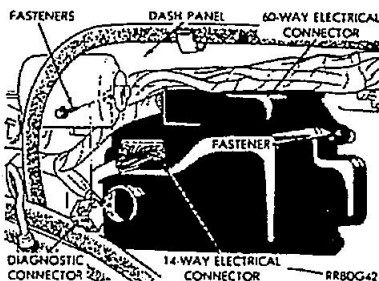

Fig 3
2. Remove 3 module mounting screws (Fig 3)
3. Remove 14 and 60 way wiring connectors from the SMEC and remove SMEC (Fig 3).